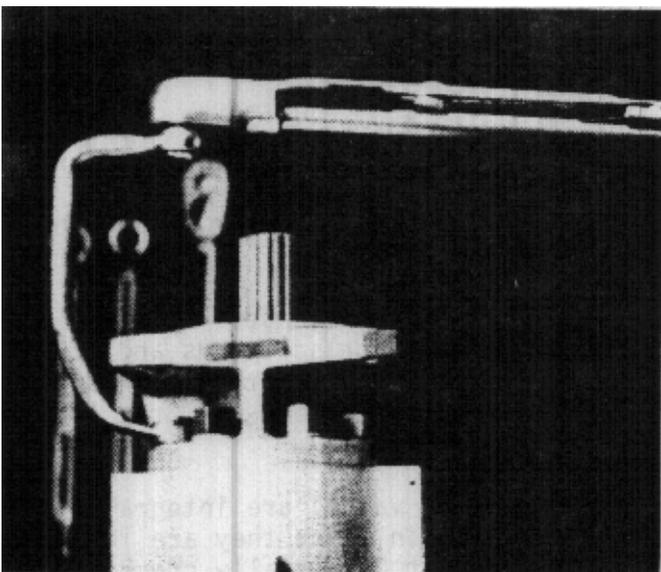

FIGURE 105
45. Install stud (42).
47. Install o-rings (35) on bearing extensions of flange plate (1). Install o-ring (33) in the flange plate groove. Use clean heavy grease to hold the oring in the groove. (Use caution while the seal is being moved down the shaft. If the shaft extension is splined, heavy grease applied to the splines will help prevent damage to the seal. If the shaft extension has a keyway, a thin piece of shim stock covering the keyway will prevent cutting of the seal.)
48. Complete installation of the flange plate (1) by following applicable portions of the procedures described in Step 40. Use the same precautions.
49. Install washers (22) and nuts (21). The nuts should only be run down until they are snug.
51. Tighten two opposite nuts on each end and apply a torque of 80 to 90 lb/ft. (165-175 lb/ft. on SPM25) (Fig. 105)